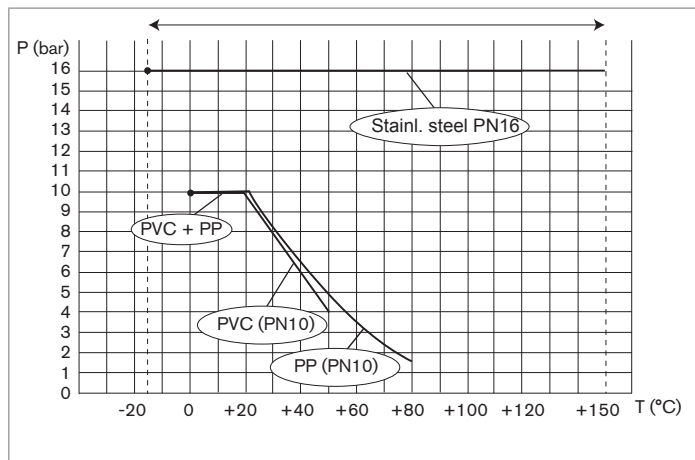

Figure 4: Dependency between the temperature and pressure of the liquid for 406010 in a 406090 fitting of stainless steel, PVC or PP
Temperature of the liquid	The temperature of the liquid can be restricted by the pressure of the liquid and the material of fitting 406090 (see Figure 4). -15 - +150 °C
Pressure of the liquid	The pressure of the liquid can be restricted by the temperature of the liquid and the material of fitting 406090 (see Figure 4). <ul style="list-style-type: none"> • PN10 with plastic fitting • PN16 with metal fitting
- Observe the temperature/pressure dependency of the liquid, depending on the type of materials the fitting is made of (see Figure 4).